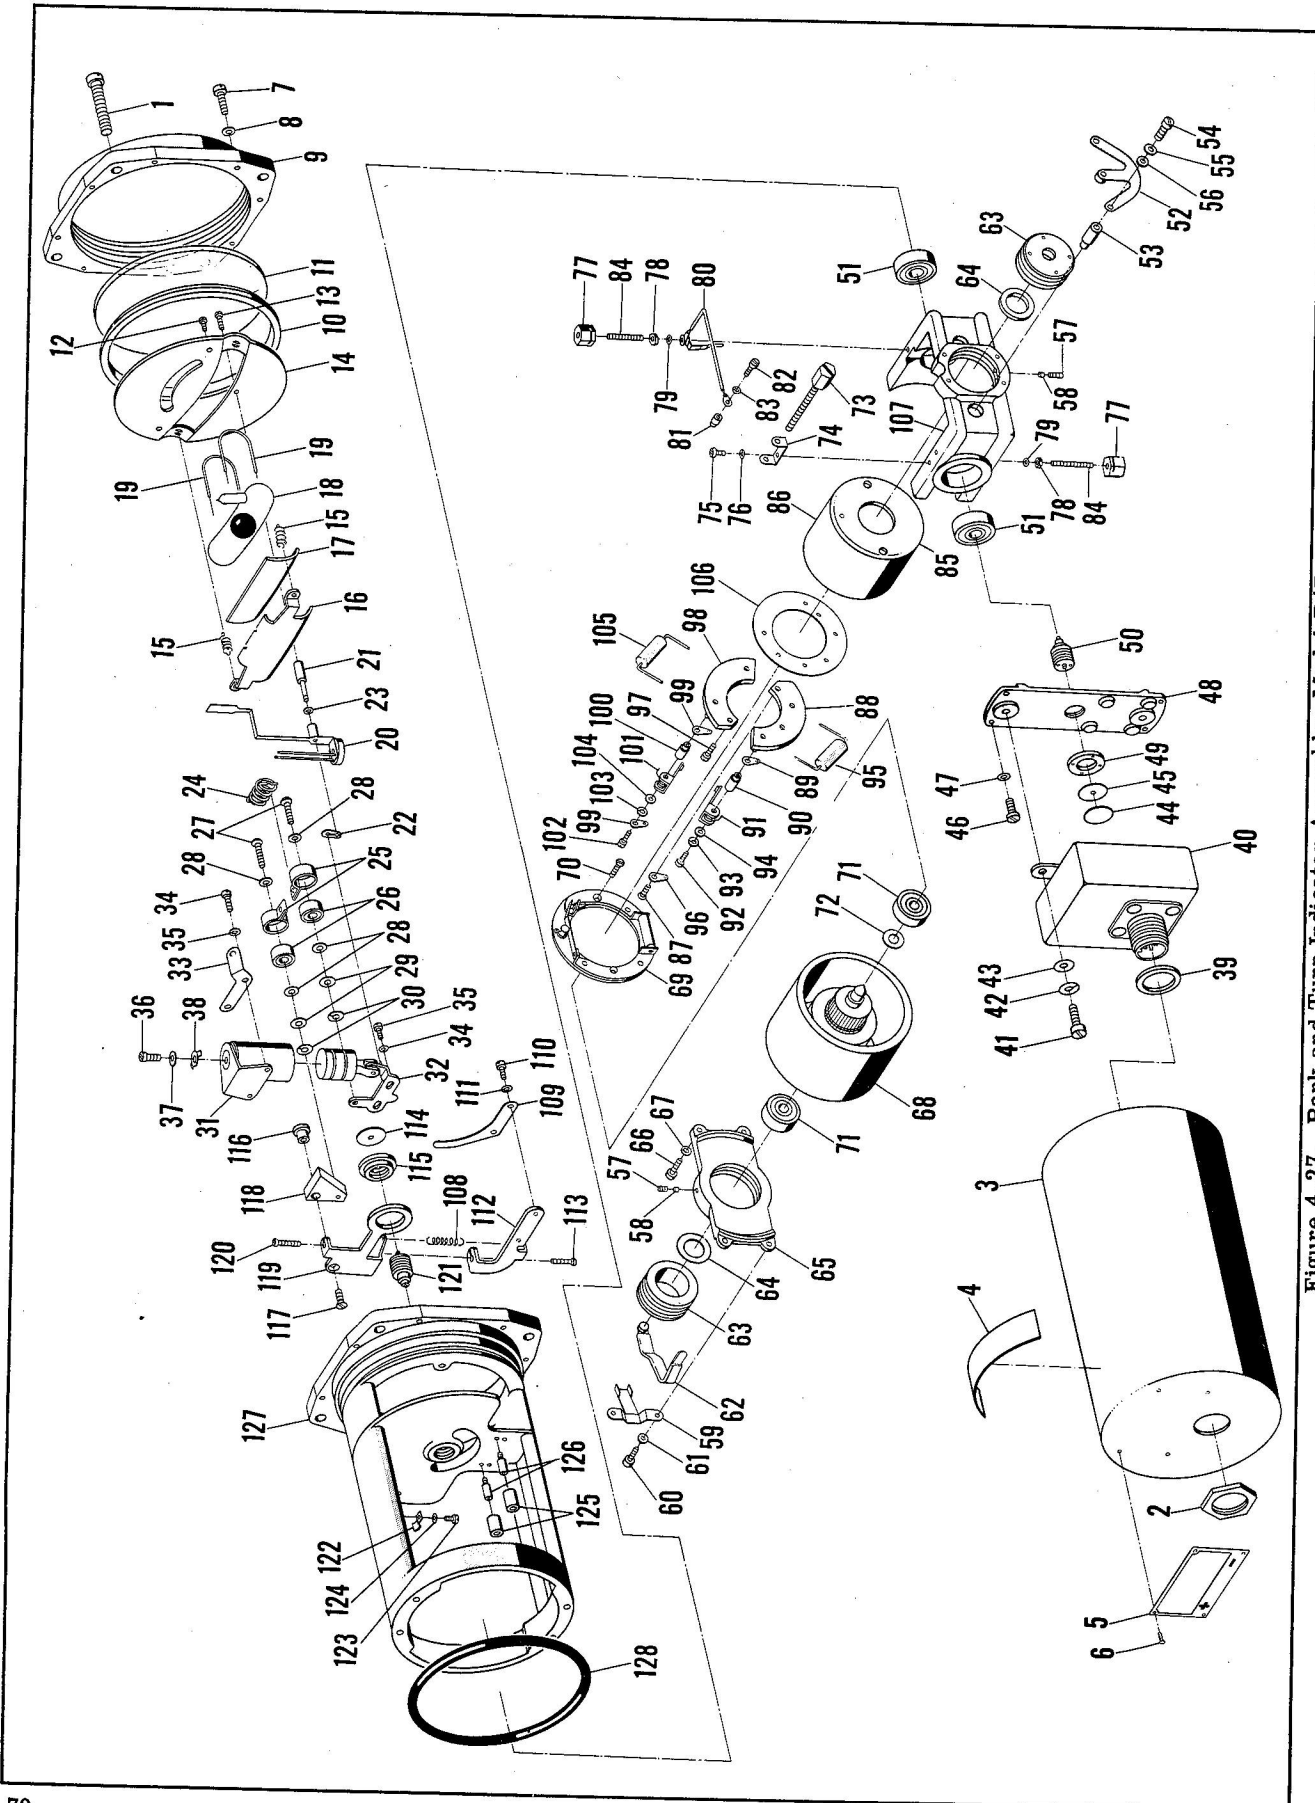
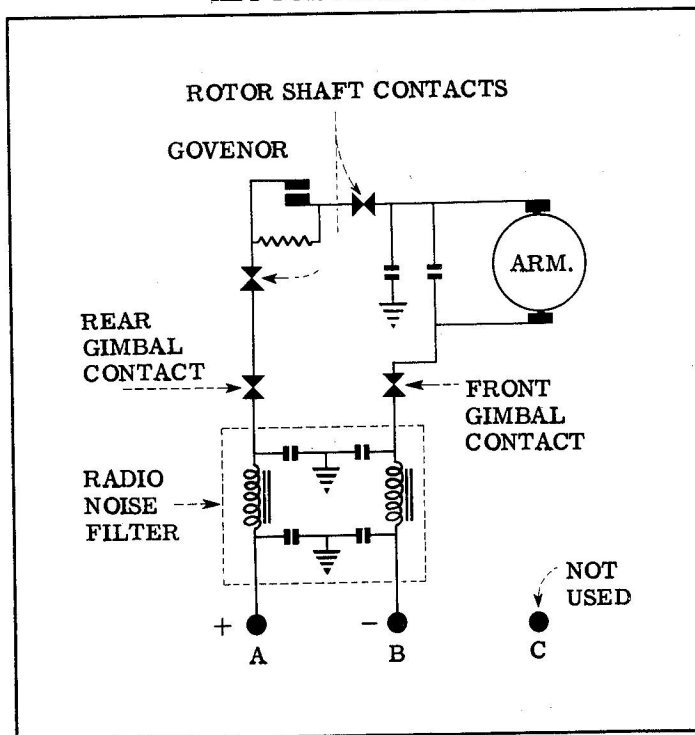

Figure 4-27. Bank and Turn Indicator Assembly, Model B4B-P
Figure 4-28. Wiring Diagram, Model B4B-P
DISASSEMBLY. (See figure 4-27.) Same as Model B4 except that filter assembly (40) replaces individual radio noise filtering components used on Model B4, and insulation (44) is used between insulating washer (45) and the filter assembly. The negative side of the electrical circuit is insulated throughout with insulation (81), and (114), and pivots (90), and (100). Condenser (105) is used between negative brush arm assembly (101) and ground. See figure 4-28 for wiring diagram. Rear plate (48) is mated to frame (127). Gimbal end (65) is mated to gimbal (107).
TEST PROCEDURE. Same as Model B4 except that pointer deflections must be within tolerances listed in Table XII. See figure 4-28 for wiring diagram.
KEY FOR FIGURE 4-27